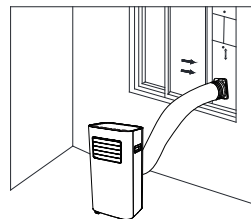

Figure 14
14. The appliance assembly is completed as shown in Figure 14.